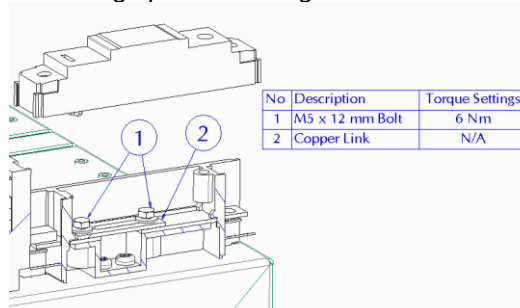

Fig. 5
7. Once the link is established, torque both bolts to the setting specified in Fig. 5.